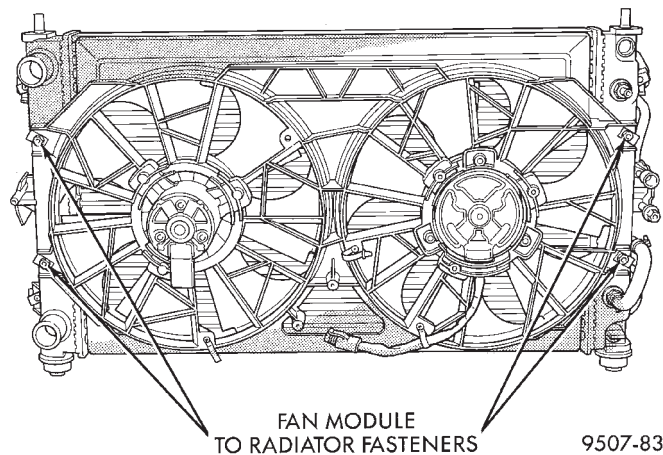

Fig. 44 Fan Module
(1) Remove upper radiator crossmember. Refer to Group 23, Body for procedure.
(2) Disconnect fan motor electrical connector.
(3) Remove fasteners attaching fan module to radiator (Fig. 44).
(4) Remove fan module.
(1) Install fan module to radiator. Tighten shroud to radiator fasteners to 7.5 N·m (65 in. lbs.) (Fig. 44).
(2) Connect fan motor electrical connector. **For wiring diagrams of fan motor systems, refer to Group 8W, Wiring Diagrams.**
(3) Install upper radiator crossmember. Refer to Group 23, Body for procedure.